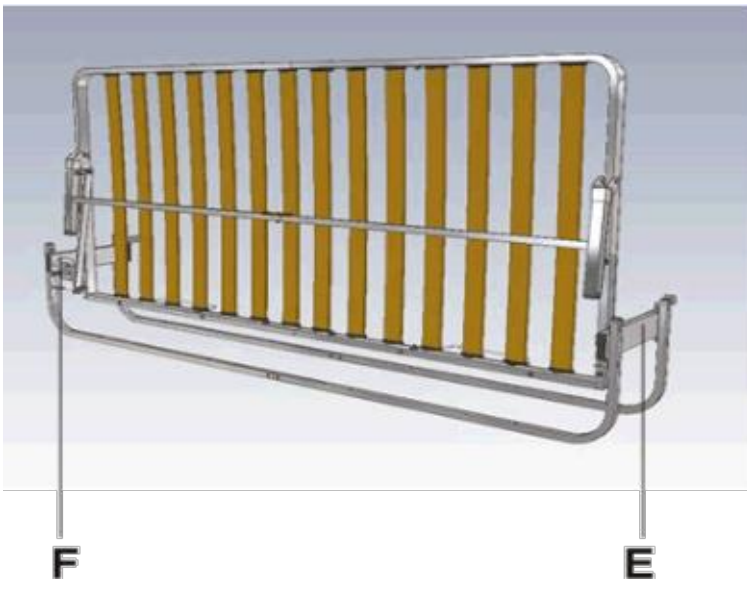

Fig 1.
2. Bolt the counterbalanced units ‘E’ & ‘F’ to the sub-frames ‘H’ & ‘I’ ensuring that ‘H’ is located at the front and that the lug is on the left hand side. (fig 1)